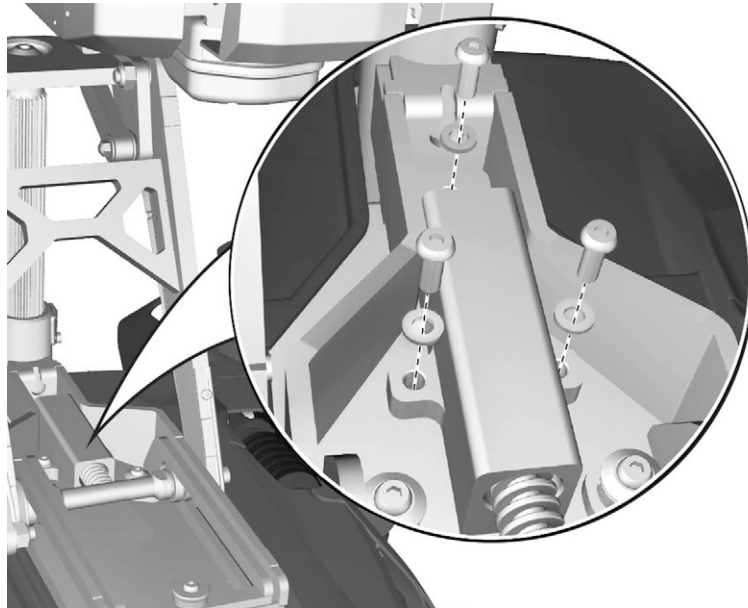

Figure 136. Assembling the spring unit, it is attached with three screws and washers.
3. Remove the spring unit, it is attached with three screws and washers. See fig. 136.
1. Assemble the spring unit, it is attached with three screws and washers. See fig. 136.